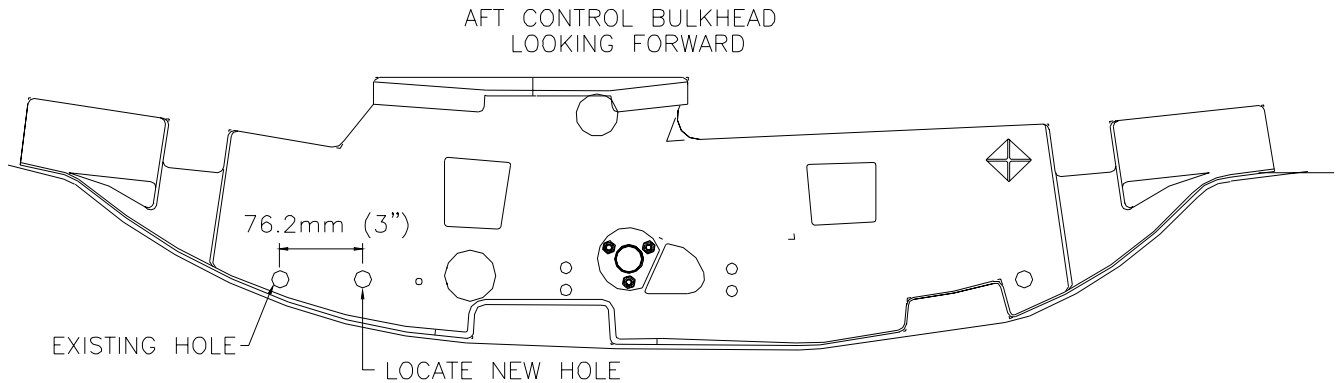

Figure 3
- 10.15 Relocate the (1/2 inch) left side brakeline-through-hole in the aft control bulkhead 3 inches inboard (on the same waterline) as shown in figure 3.